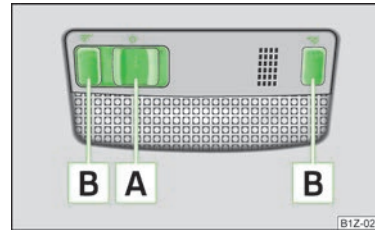

Fig. 29
- Press switch **A** » Fig. 29 towards the edge of the light, the symbol ☞ appears.
- Press the switch **A** » Fig. 29 in the middle position **O**.
- Press switch **A** » Fig. 29 towards the middle of the light, the symbol ☞ appears.
- Press switch **B** » Fig. 29 to switch the reading lights on or off.